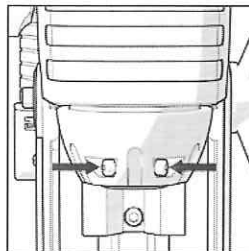

Fig. 7
- Check that the cutter securing set screws located in the arbor are not protruding into the spindle bore. (**Fig.7**)